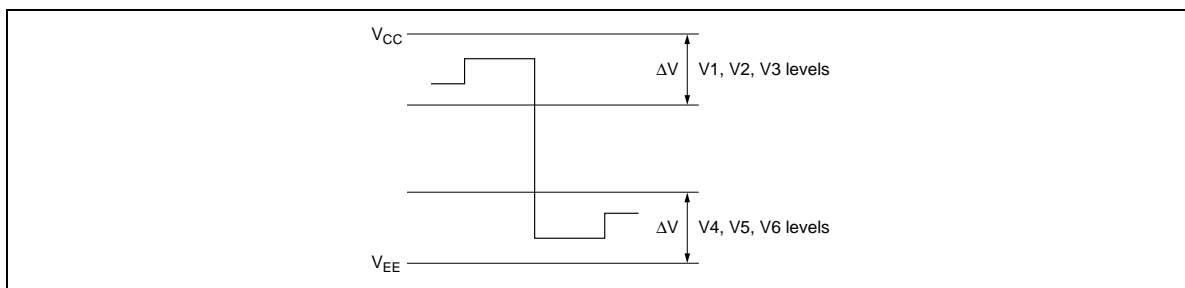

Figure 36 Driver Output Waveform and Voltage Levels
- $\Delta EV = 0.35 \times (V_{CC} - V_{EE})$. For levels V1, V2, and V3, the voltage supplied should be between the V_{CC} and the ΔEV and for levels V4, V5, and V6, the voltage supplied should be between the V_{EE} and the ΔEV (Figure 36).
4. $\Delta EV = 0.35 \times (V_{CC}-V_{EE})$. For levels V1, V2, and V3, the voltage supplied should be between the V_{CC} and the ΔEV and for levels V4, V5, and V6, the voltage supplied should be between the V_{EE} and the ΔEV (Figure 36).